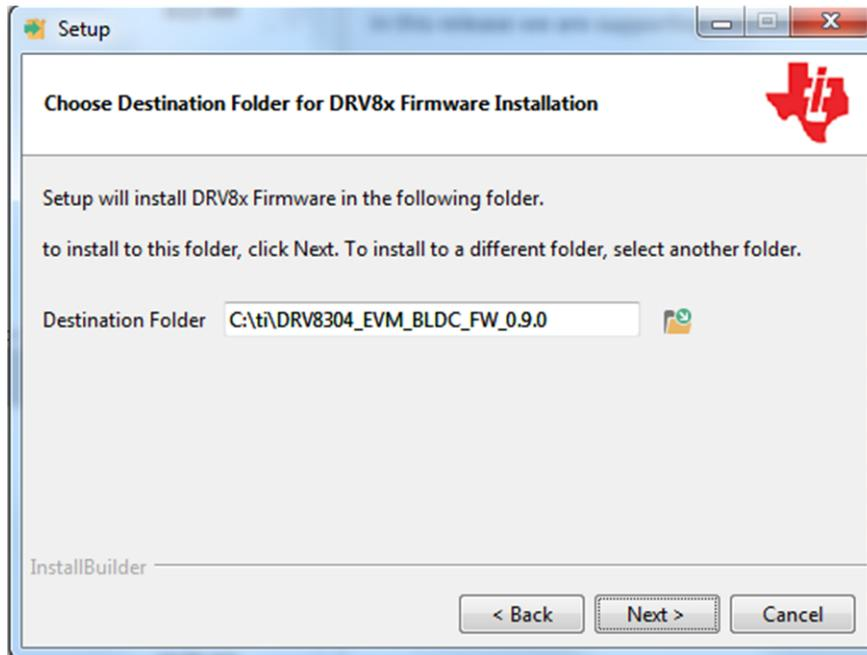

Figure 16. Setup Destination Folder
- Step 5. Choose the destination location for the example CCS projects and the documentation (see Figure 16). This destination can be set to any location in the PC.